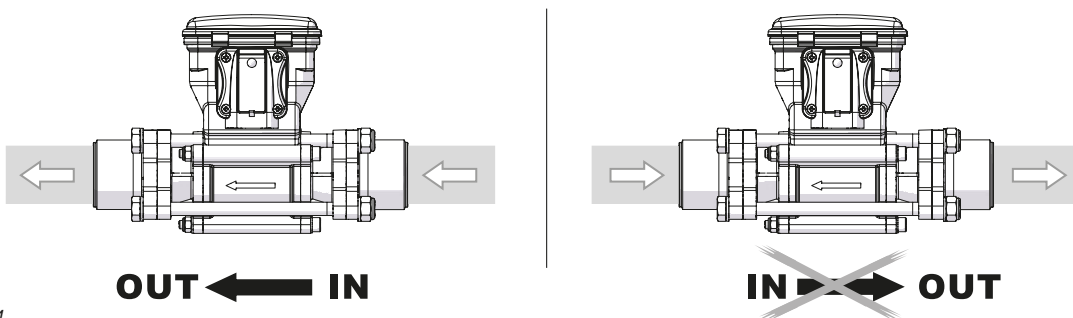

Fig. 4
- Observe the correct inlet-outlet direction of the liquid, as indicated by the arrow printed on the flowmeter body (Fig. 4).